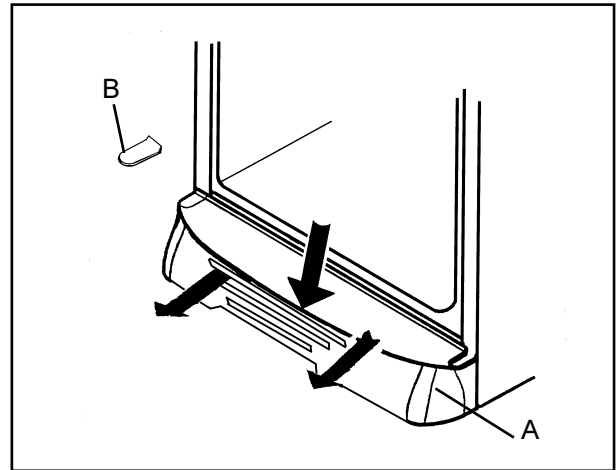
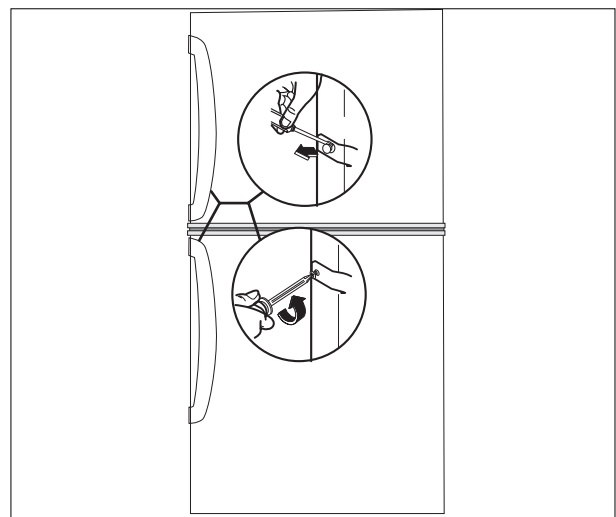

Fig. 5
Fig. 7
1. Open the freezer door. Remove the plinth (A) at the bottom of the appliance, by pushing downwards and pulling outwards. (See fig 5)
2. Remove the hinge cover (B) in the plinth and reposition on the opposite side of the plinth.
7. Unscrew the small blanking plugs (3) and refit on the opposite side to cover the vacant hinge holes.
8. Unscrew the hinge pin (4) in the upper and lower hinge blades and refit on the opposite side.
9. Change the door self-closing system (5), putting the freezer door's on the fridge door and viceversa.
13. Move the door handles from the left to the right and cover the remaining holes with the hole cover pins attached (fig. 7).